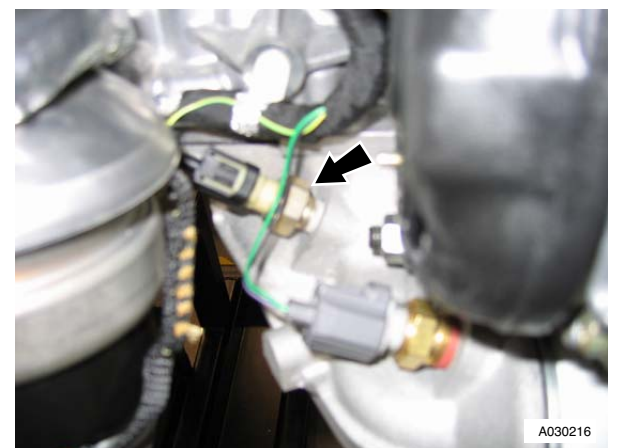

Figure 4
13. Disconnect multiplug from oil pressure sensor (see Figure 4).